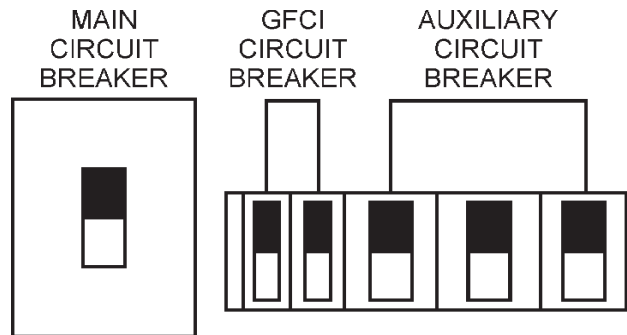

Figure 52. Main, AUX. and GFCI Circuit Breakers (ON)
15. Turn the **main**, **GFCI**, and **aux.** circuit breakers to the **ON** position (Figure 52).